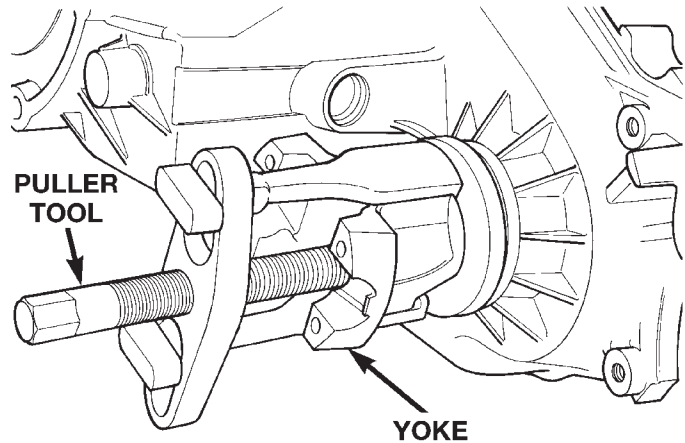

Fig. 21 Yoke Removal
(2) Remove yoke. If yoke is difficult to remove by hand, remove it with bearing splitter, or with standard two jaw puller (Fig. 21). Be sure puller tool is